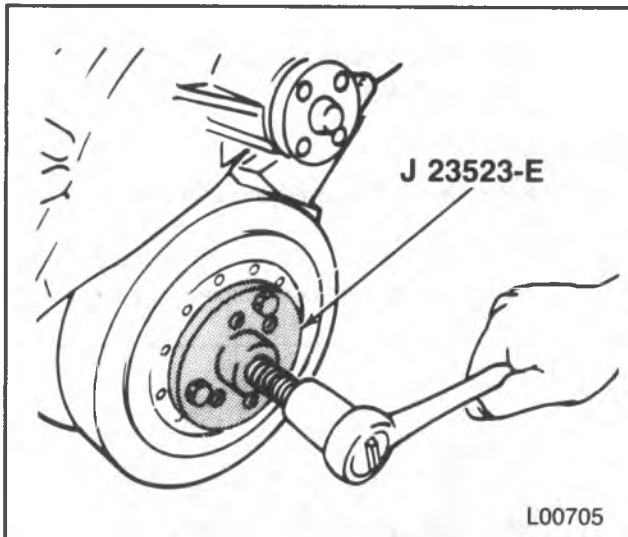

Figure 16 — Removing the Torsional Damper
Remove or Disconnect (Figure 16)
5. Torsional damper using J 23523-E (figure 16).